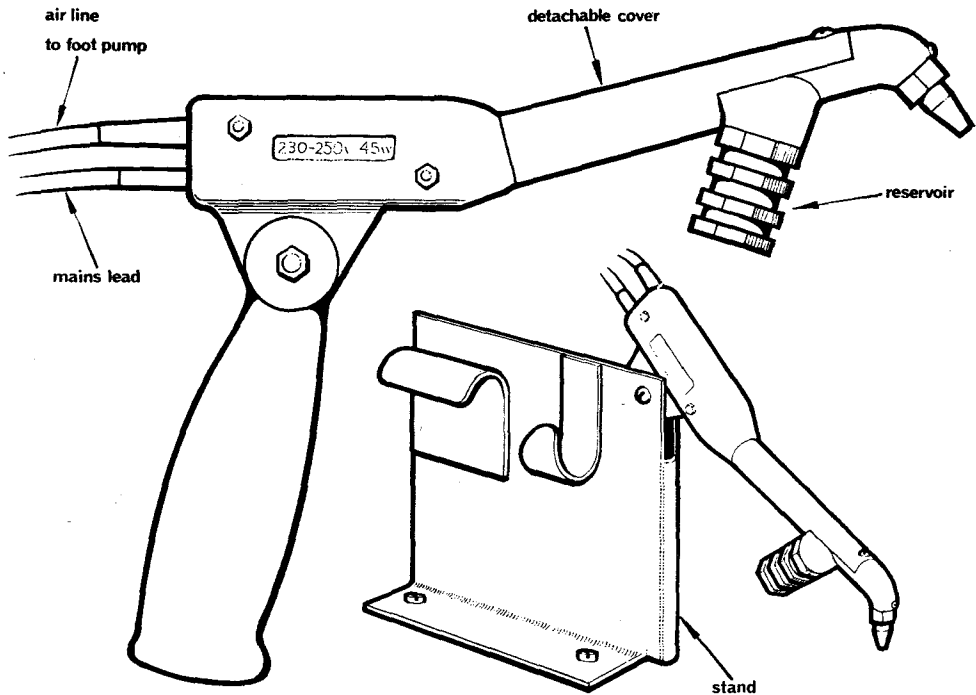

Fig. 22. Phillips aspirated desoldering iron
- (1) Press the black knob firmly against a surface until the teflon tip is ejected from the tool.
- (2) Pull the tip completely off with the fingers.
- (3) Brush out any solder from the tool barrel.
- (4) Replace the tip and push it firmly home.
- (5) Occasionally lubricate the plunger mechanism with a small amount of silicone grease, applied through the exhaust holes.
32. The Phillips aspirated iron. This desoldering tool has a 45-watt heating element and is mains-operated. The vacuum is obtained from a foot pump, connected to the tool by a plastic suction tube. A special stand is provided which can also be used as a clamp/swivel for bench mounting the tool (see Fig. 22). **The tool must not be used upside down.**